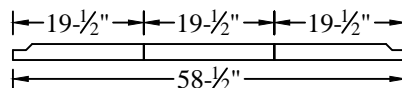

Figure 7: Filler strip assembly.
1. **Arrange** the three (3) 12ga. x 4-1/4" x 19-1/2" T-330 filler strips end to end (Figure 7).